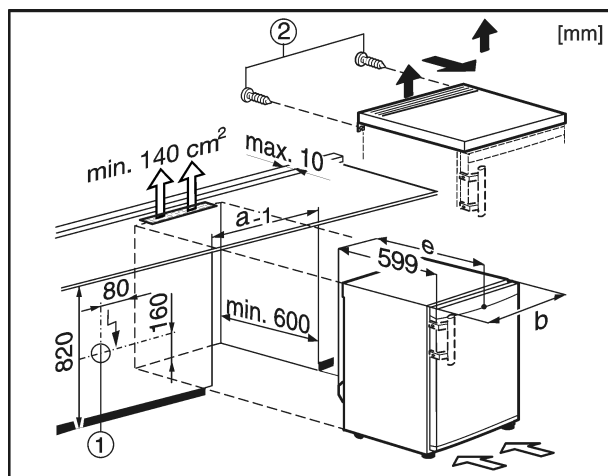

Fig. 8
With such installations, the plug Fig. 8 (1) must not be located behind the appliance and must be easily accessible.
- Remove the screws Fig. 8 (2) from the rear side.